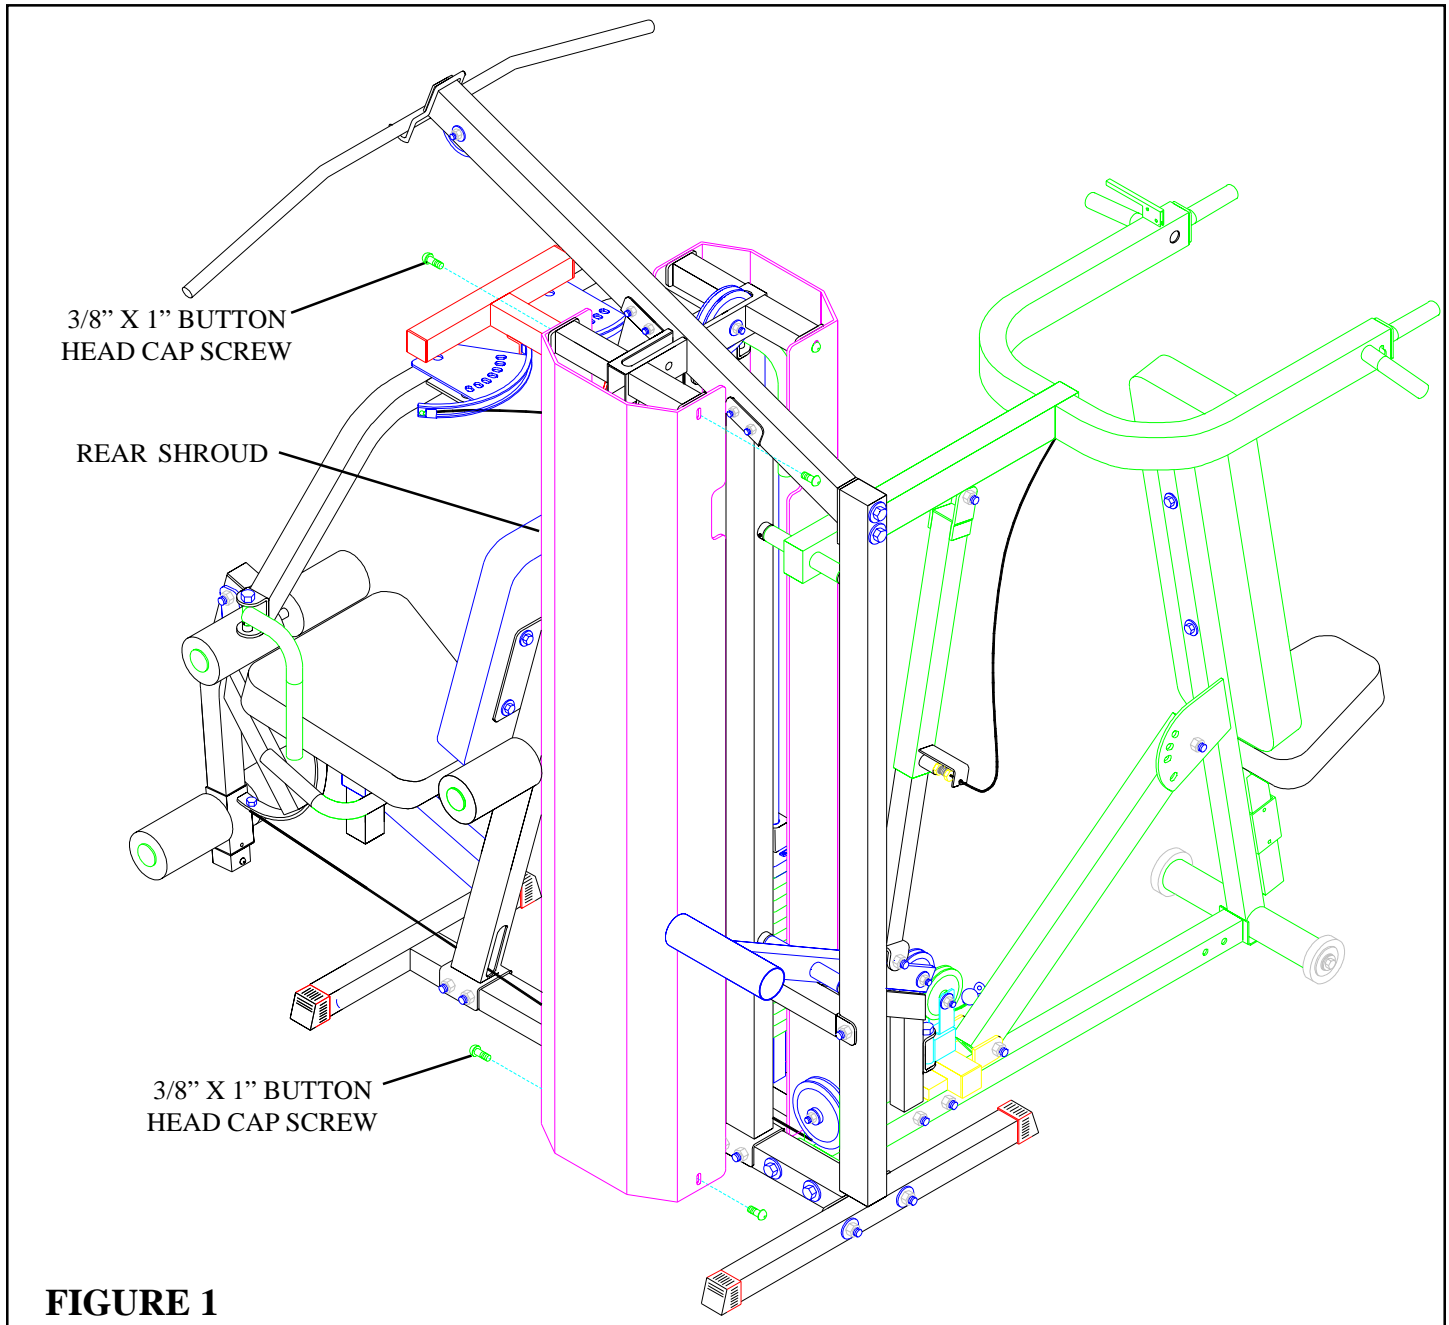

FIGURE 1
- **REMOVE** the four 3/8" X 1" BUTTON HEAD CAP SCREWS from the rear SHROUD. Remove the SHROUD from the 425104 HOME GYM. See FIGURE 1.